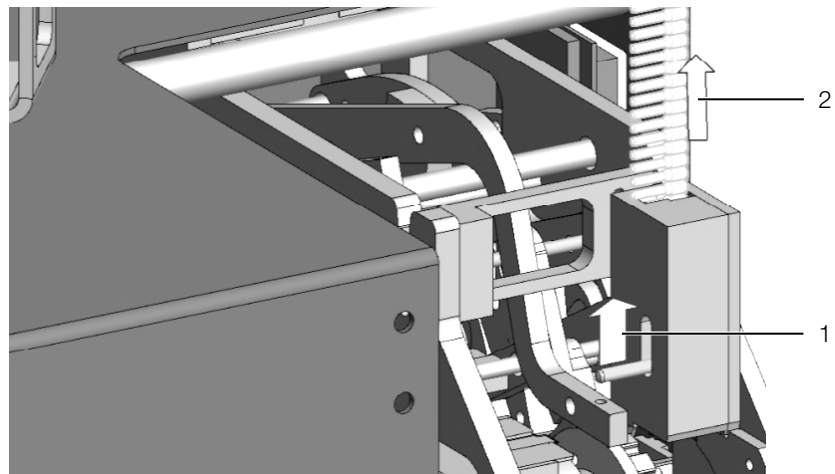

Fig. 10: Replacing the belt roll
- Press the transport pin upwards completely (see fig. 10, item 1) and remove the wire end ferrule belt (see fig. 10, item 2) from the magazine.